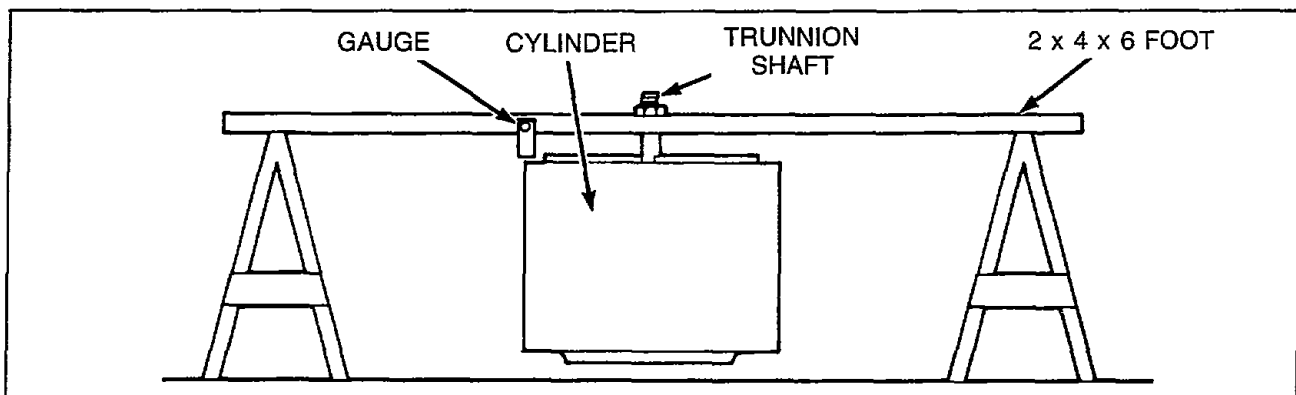

Figure 25
**IMPORTANT:** When installing trunnion shaft assembly on cylinder, cylinder and shaft must be leveled. See *Figure 25* for an example of how to check the levelness of the shaft and cylinder. Support a 6 foot 2 x 4 and drill a hole in the 2 x 4 slightly larger than the size of the trunnion shaft. Hang shaft and cylinder through the hole and place nut on shaft. While turning cylinder by hand, use a gauge and check the cylinder edge for levelness. If cylinder is not level, place a shim or shims between the appropriate trunnion bracket, rod and cylinder.